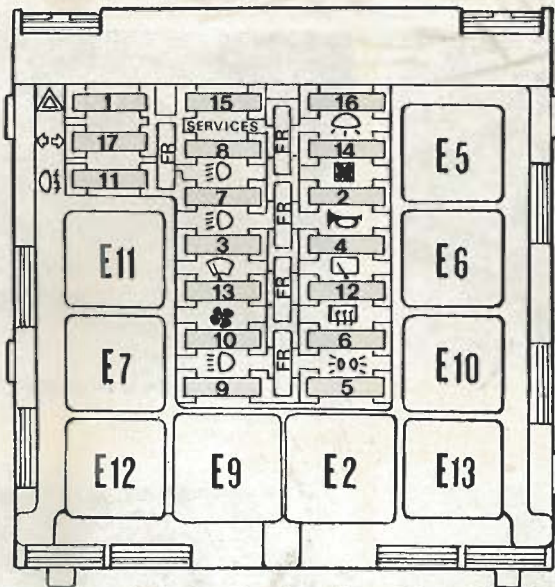

Fig. 11.3 Fuse and relay locations in main panel - non-DGT models (Sec.15)
For details of fuses refer to key for Fig. 11.3
- 3 The circuits protected by the various fuses are marked on the inside of the panel cover, and are shown in Figs. 11.3 and 11.4, together with the relay locations.